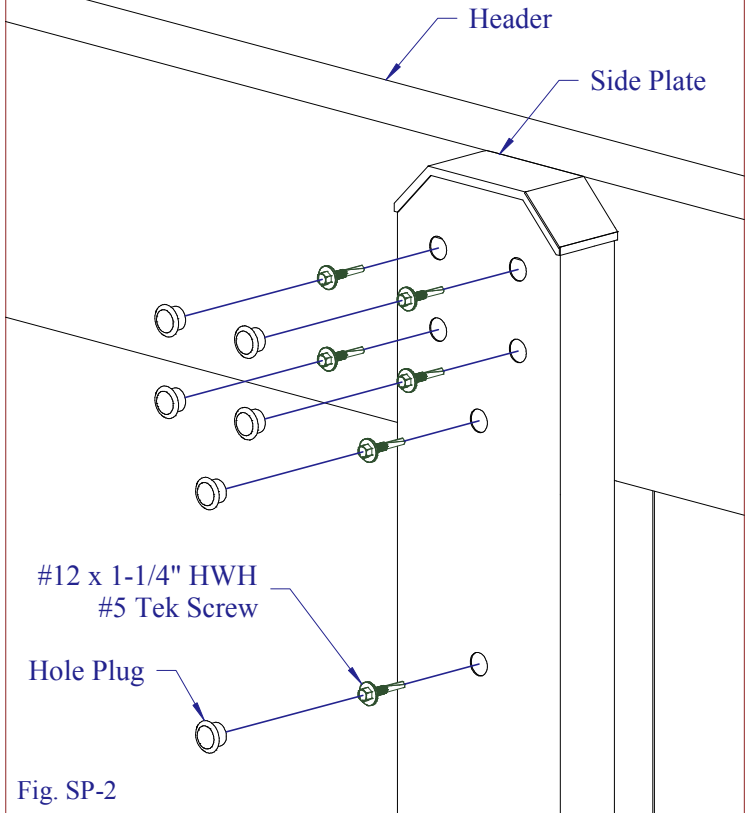

Fig. SP-2
- Attach the side plate to the post using #12 x 1-1/4" HWH #5 Tek screws through each hole (see Fig. SP-2).